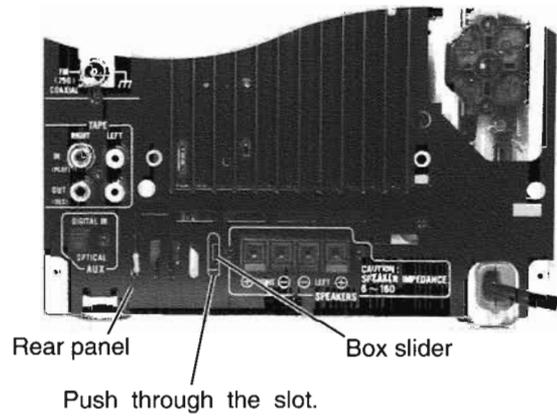

Fig.9
■ Ejecting the CD tray without turning on the power (See Fig.9 to 13)
3. Move the slide cam (L) in the direction of the arrow.